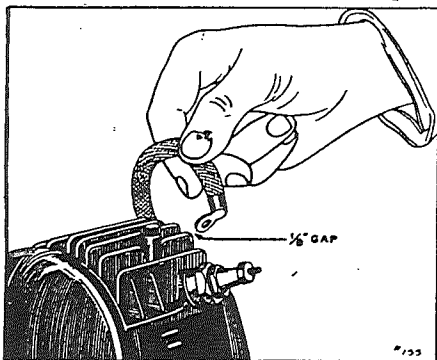

Fig. 3.
28. To be sure that you have a spark at the spark plug, you can remove the wire from the plug and hold it within  $\frac{1}{8}$ " of any metal part of the motor (See Fig. 3). Keep the hand back on the insulated part of the wire so that you will not get a shock. Then crank the motor and see if a spark will jump this  $\frac{1}{8}$ " gap. If it does, you will know that the spark is amply strong to jump the small gap at the spark plug when under compression in the motor. This test is